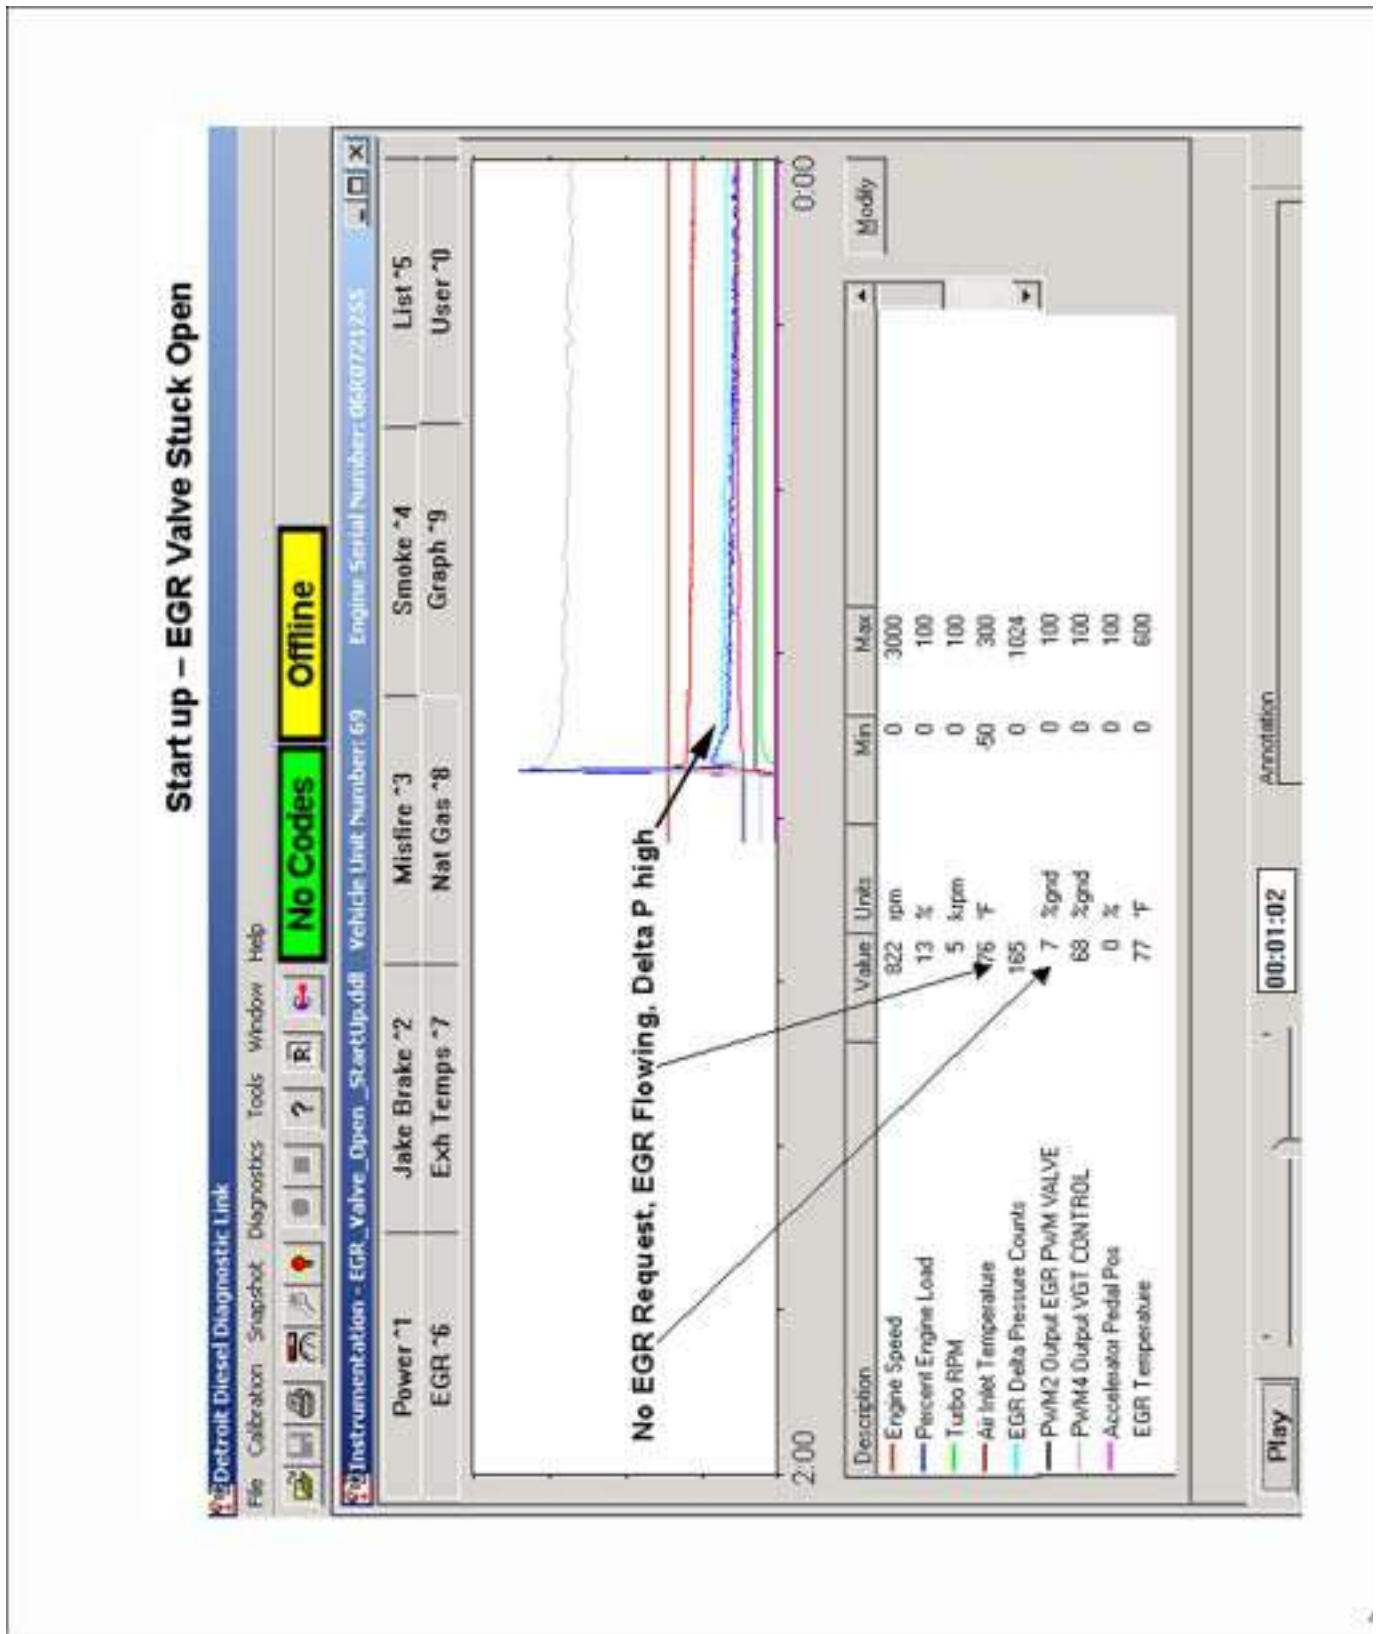

Figure 7-5 Start Up — EGR Valve Stuck Open
- ☐ EGR Valve stuck open. See Figure 7-5.